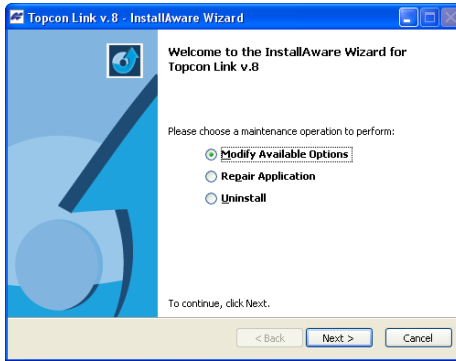

Figure 1-7. InstallAware Wizard
2. Select *Topcon Link v.8* in the *Add or Remove Programs* and click *Change* (Figure 1-7):